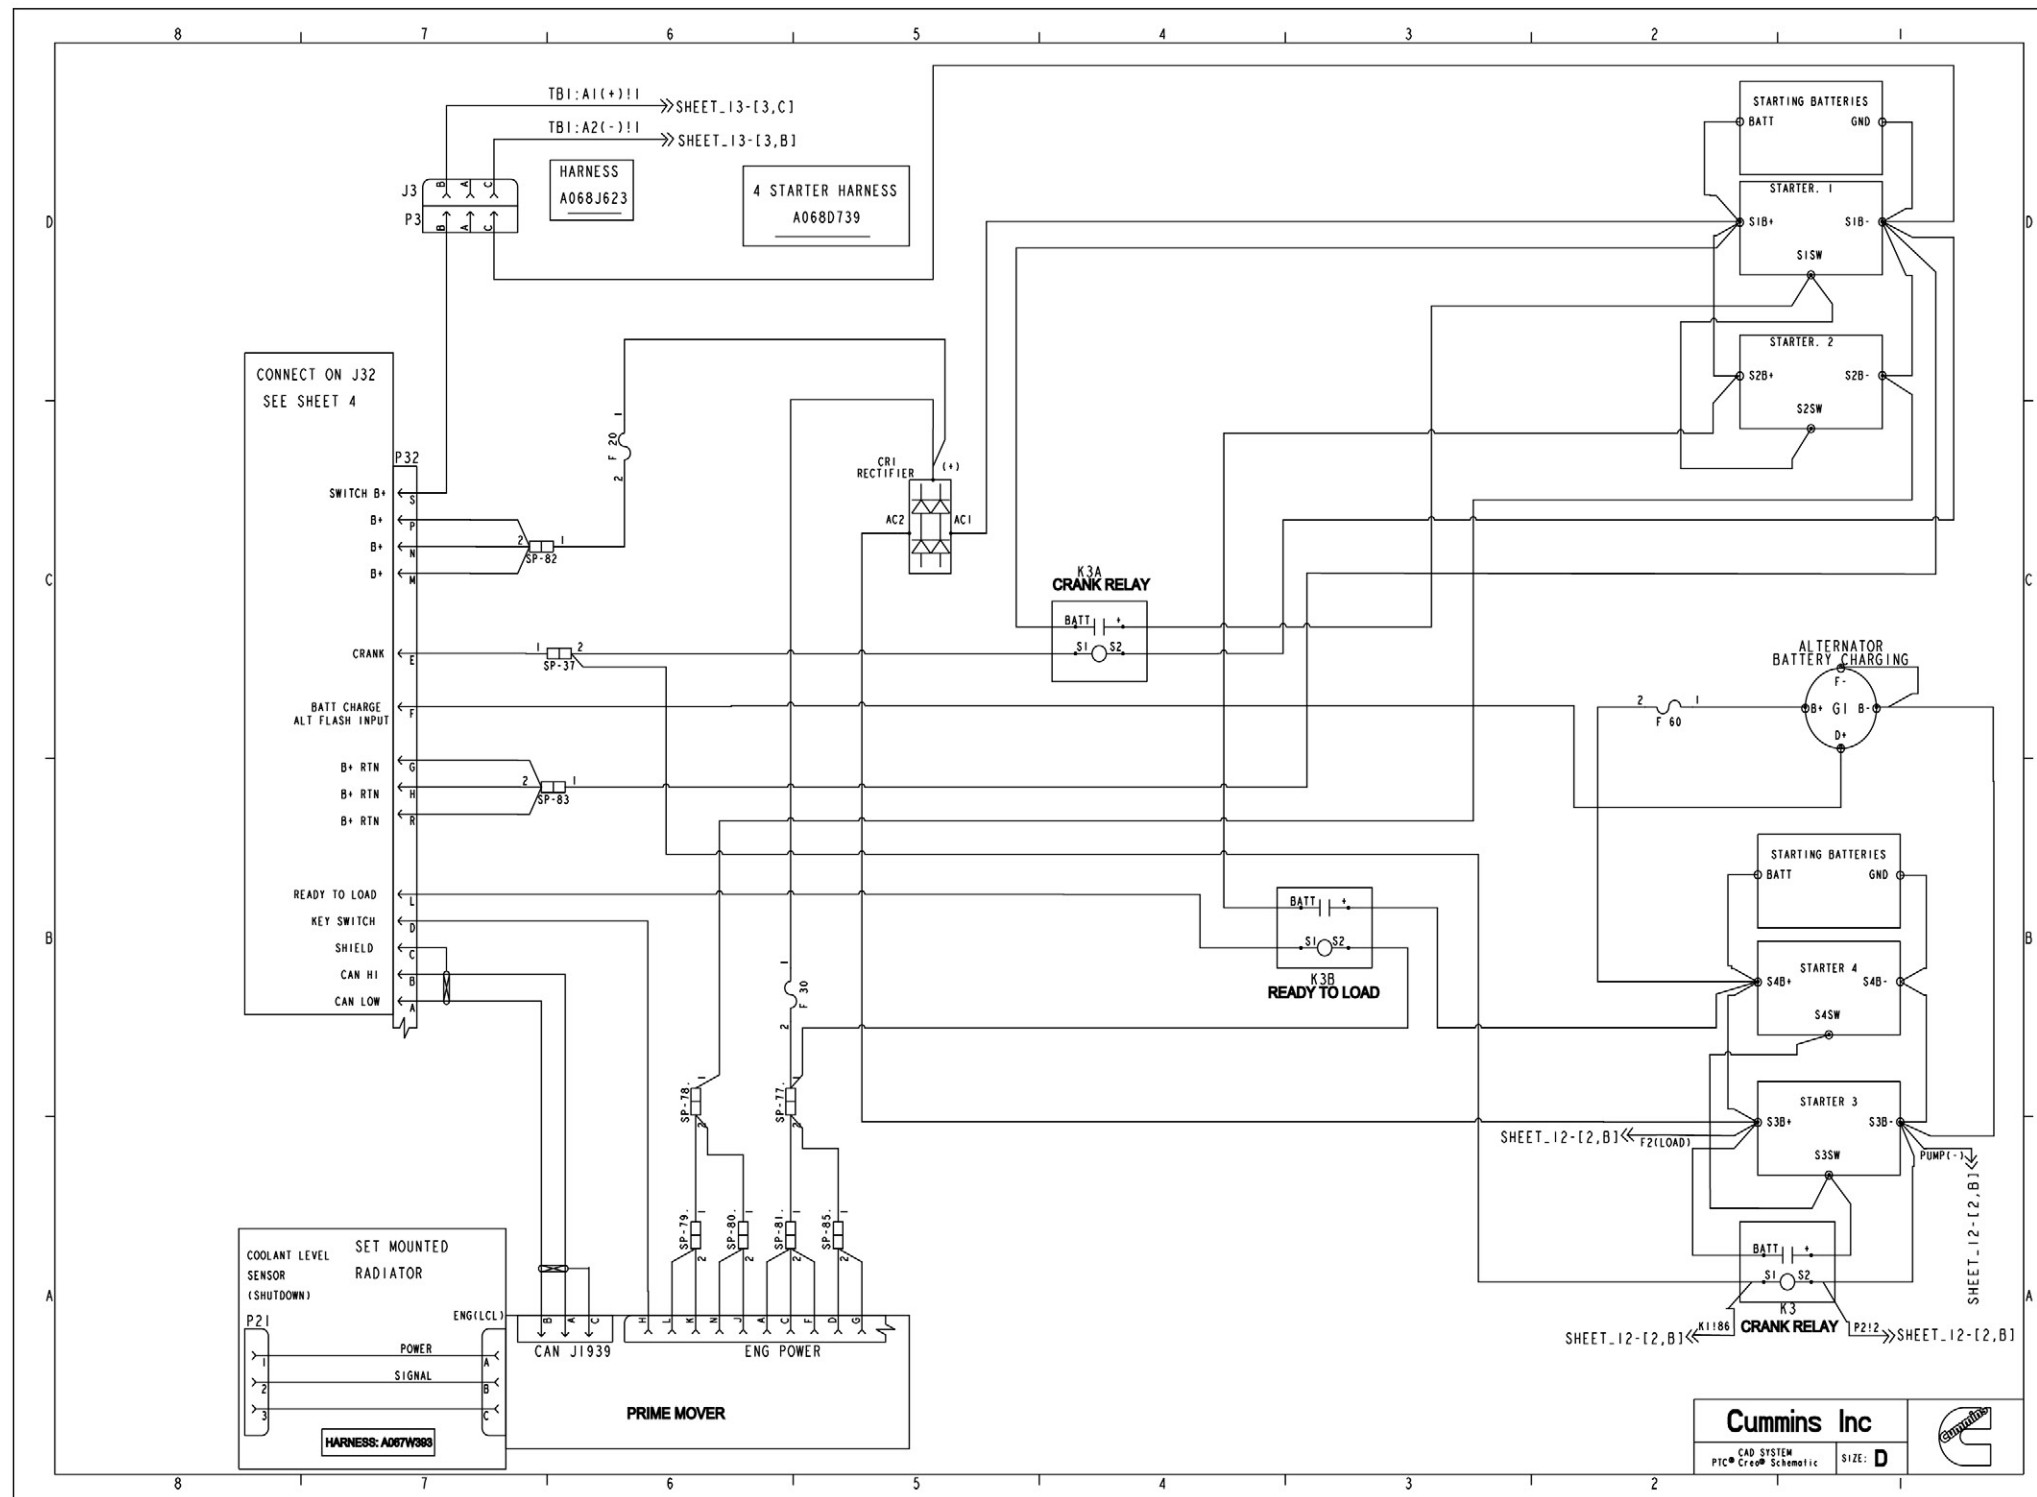

FIGURE 71. WIRING SCHEMATIC (SHEET 16)
- Figure 71. Wiring Schematic (Sheet 16) 126